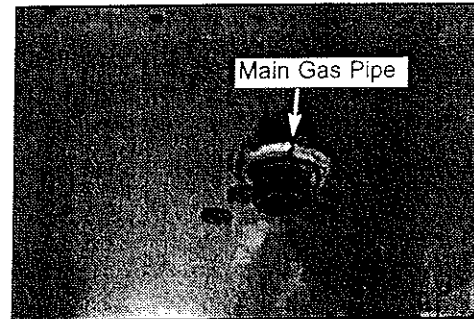

Fig. 6
3. Once the Flare Fitting is removed the main pipe will be showing under grill (See Fig. 6)